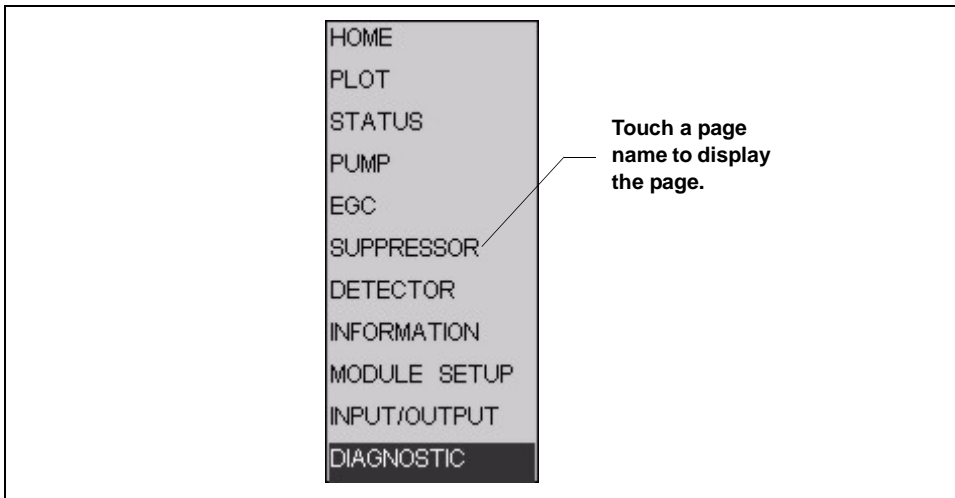

Figure C-3. ICS-2000 Touch Screen Menu of Pages
- Touching the page name (for example, ) in the bottom right corner opens a menu of pages (see Figure C-3).